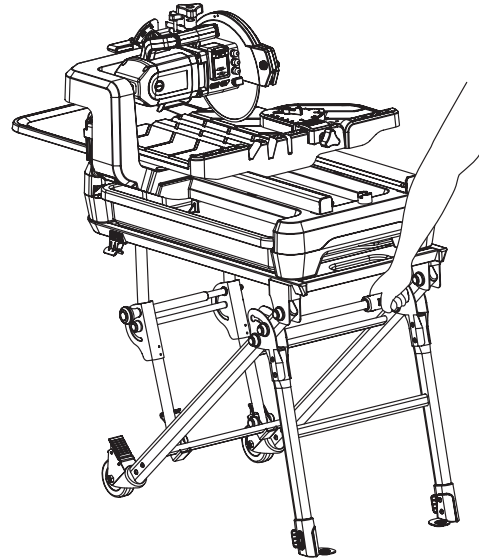

Fig. 49
3. Hold the handle of the stand firmly, lift the stand, and make sure that the two legs without wheels are about 1/2 inch above the ground (Fig. 49).